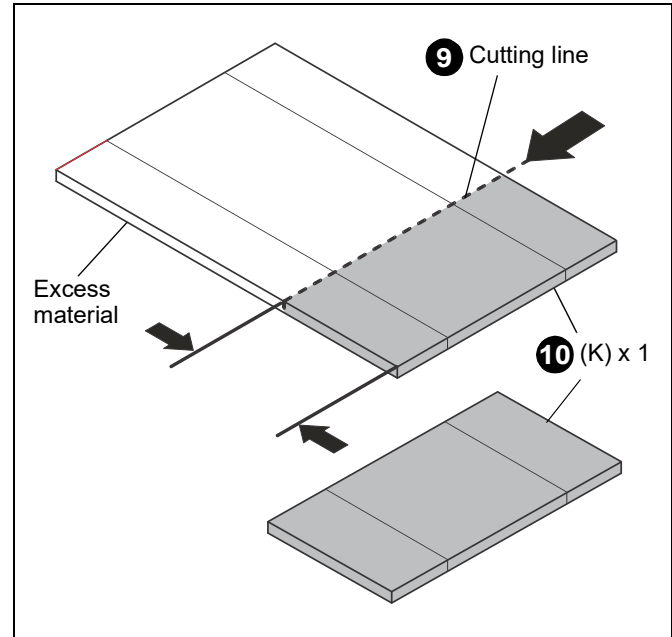

Figure 26
9. Mark the height of the space between the camera and storage box (H) on the small cover (K).
10. Cut the small cover (K) to the required size. (See Figure 26)